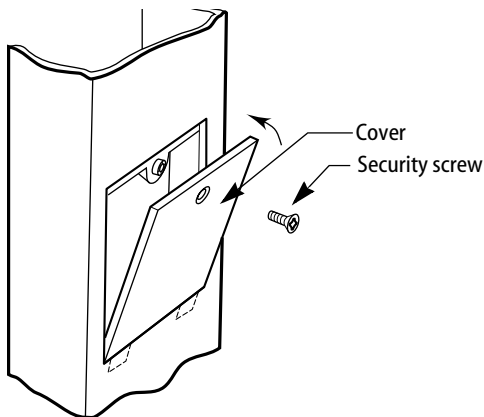

Figure 1—Removing the battery compartment cover
- 1 If the battery is already connected, remove the battery compartment cover as shown in Figure 1.